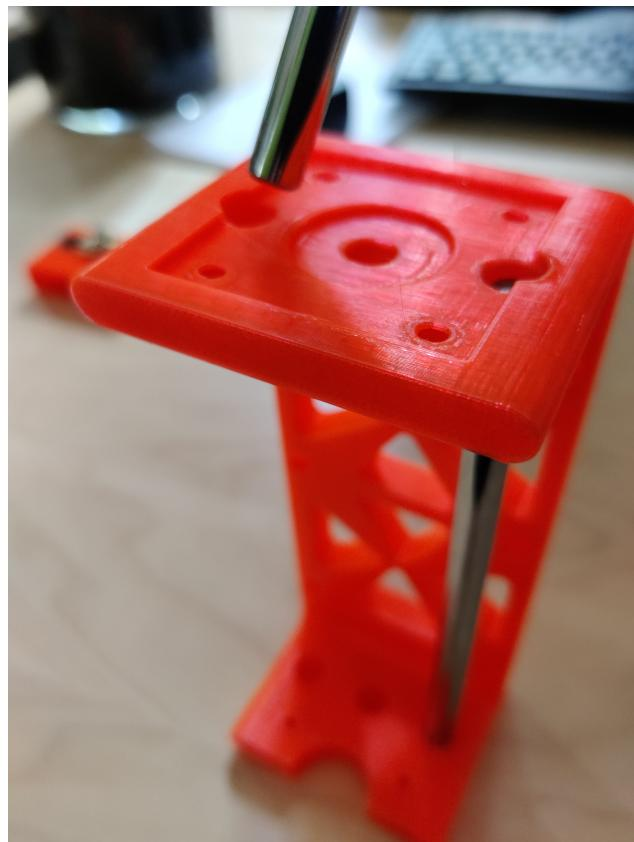

Fig. 4.5
4) Grab the pump body and press the 8 mm smooth rods half way into the pump body from the top (Figure 4.5). This is a tight fit, it might be necessary to twist the rod into place.